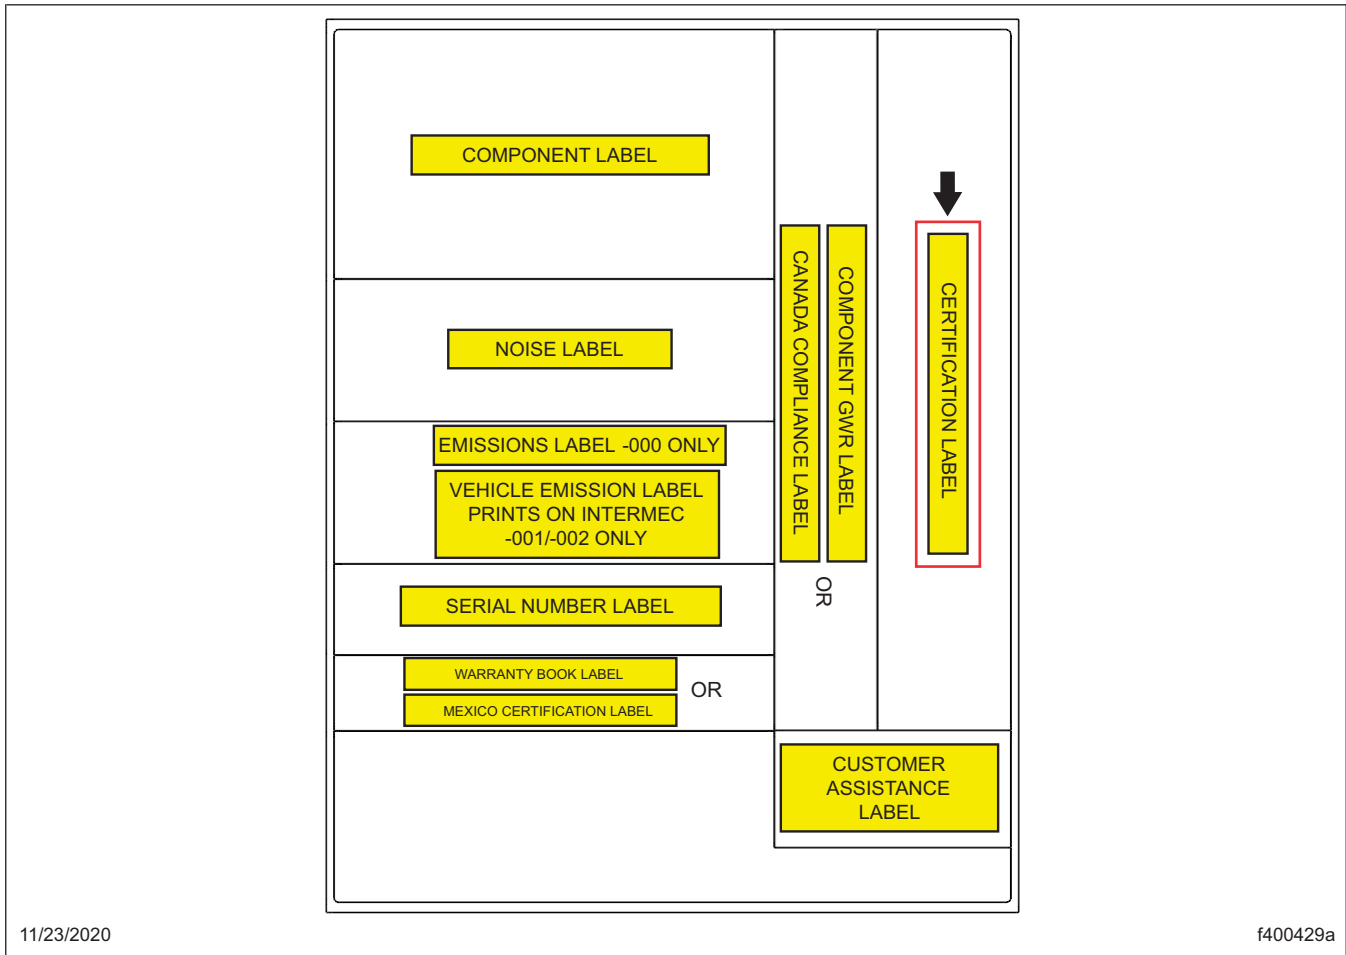

Fig. 11, FMVSS Certification Label Location, Recall Kit, Freightliner
3. Locate the new FMVSS certification label. See **Fig. 11** for the label location on the label sheet. Make sure the VIN on the current FMVSS certification label matches the VIN on the new FMVSS certification label.